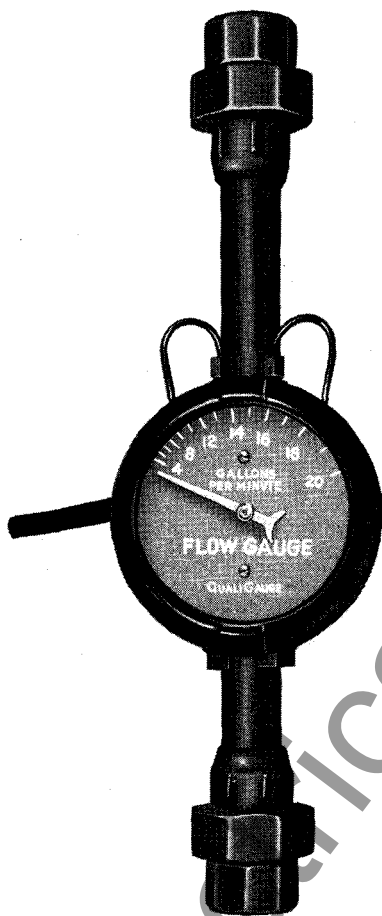
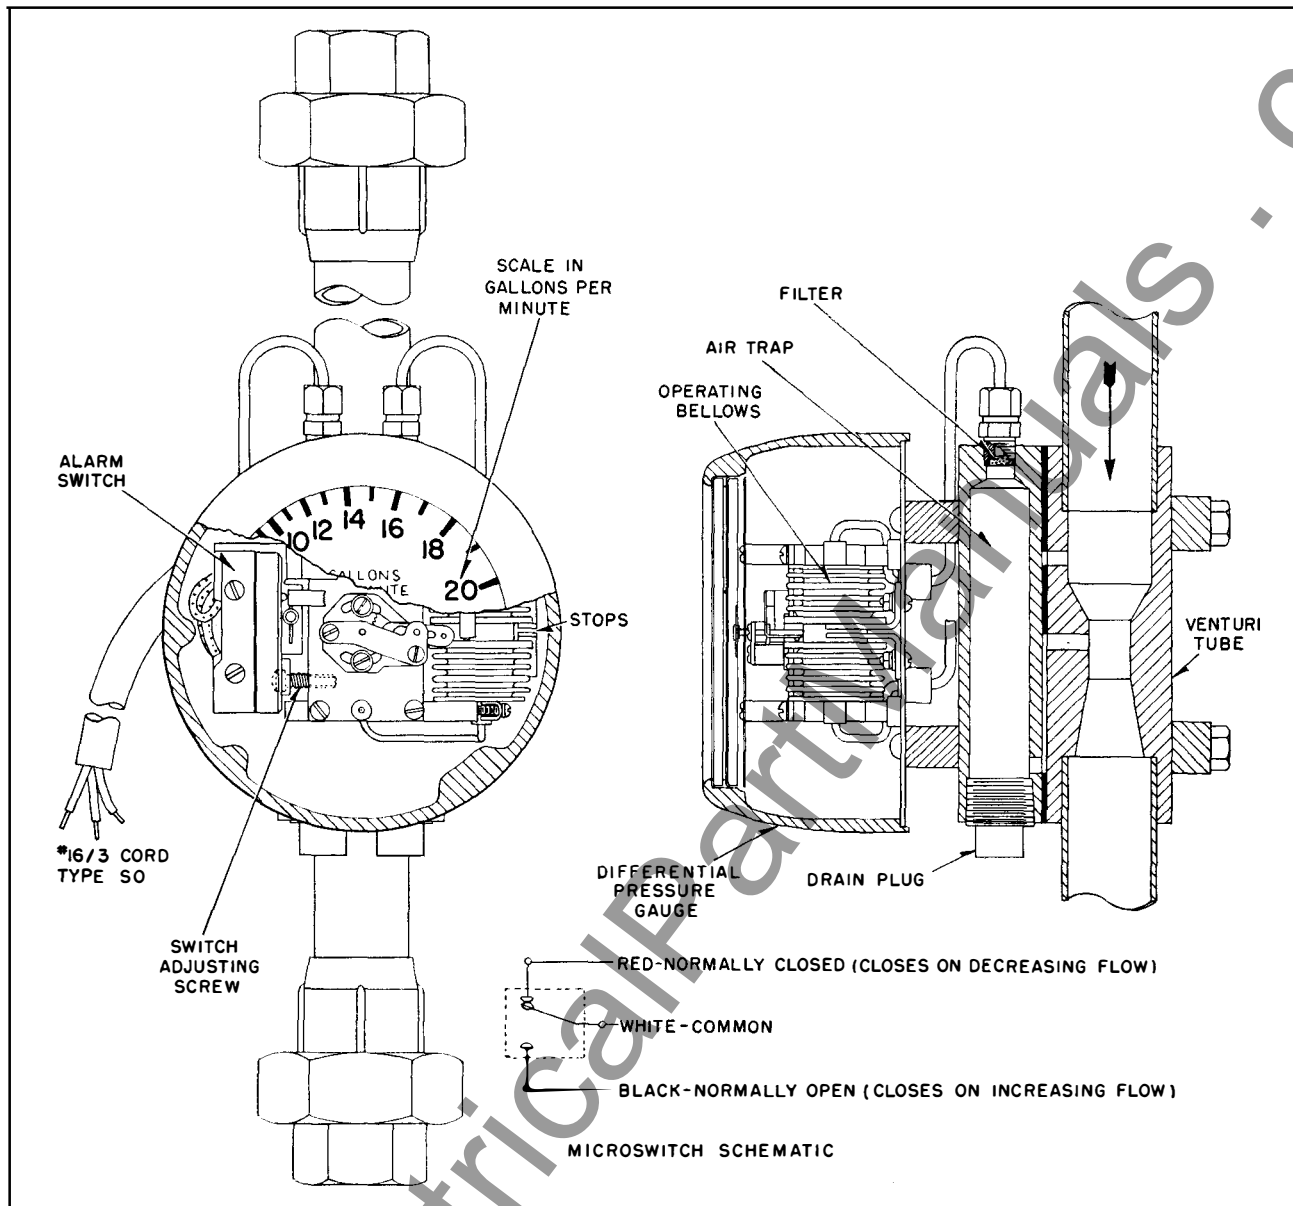

FIG. 1. Front View of Flow Gauge.
FIG. 2. Cutaway View and Switch Schematic of Flow Gauge.
The flow gauge (Fig. 1) is composed of four main component parts (shown in Fig. 2): (1) the Venturi Tube; (2) the air traps; (3) the differential pressure gauge; (4) the alarm contacts.